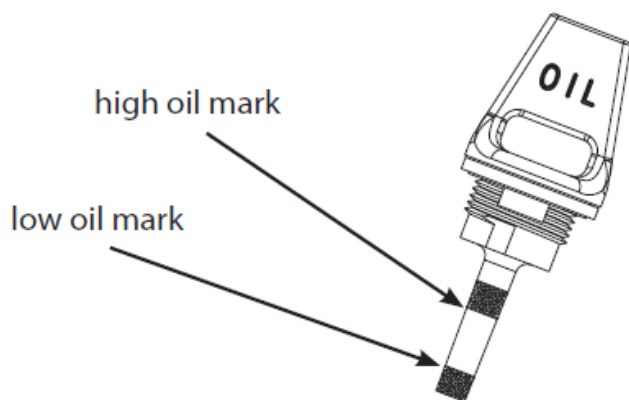

Figure 5
5. Unscrew and check dipstick. If no oil shows on the dipstick, refill so that the oil level appears between the low and high marks on the dipstick (**Figure 5**).